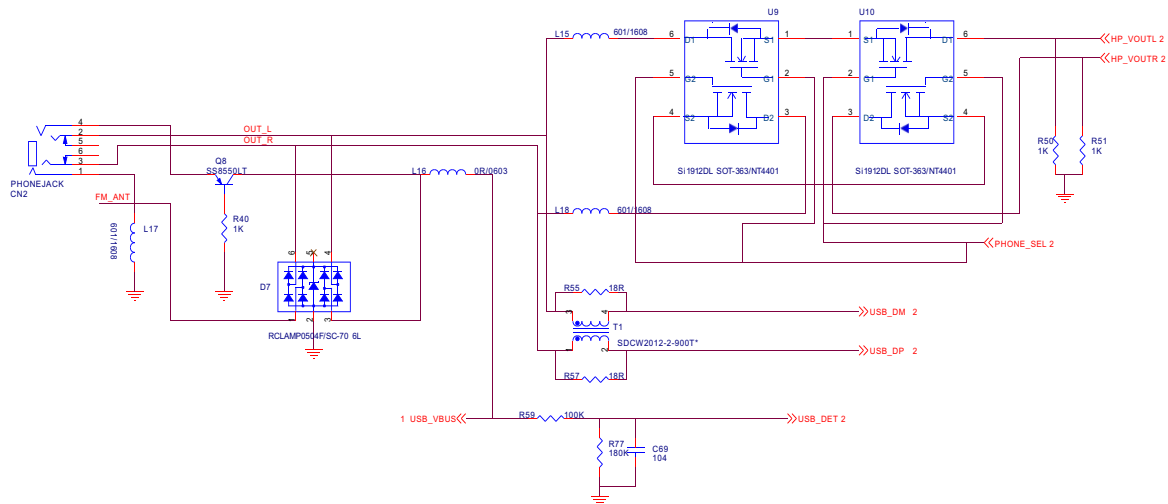

Figure 3.2.4.1 Headphone output/USB jack circuit
1. X5Mini Headphone output/USB jack circuit schematic diagram is shown in the figure 3.2.4.1: